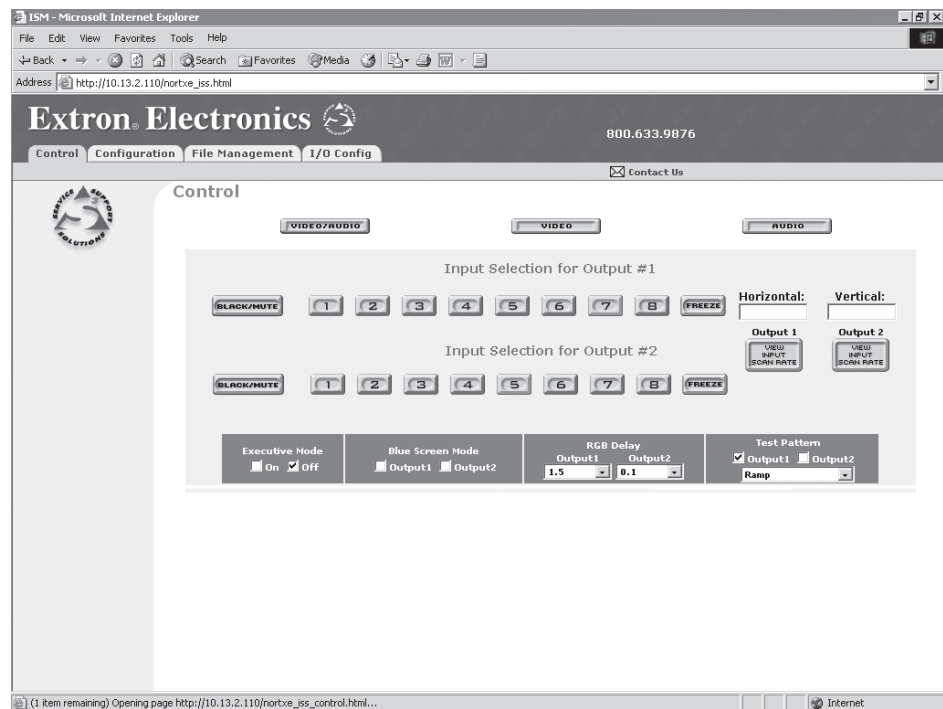

Figure 6-2 — Control page
- c. **If neither of the above conditions is true**, the switcher loads the factory-installed default startup page, “nortxe_index.html” (figure 6-2), also known as the Control page.